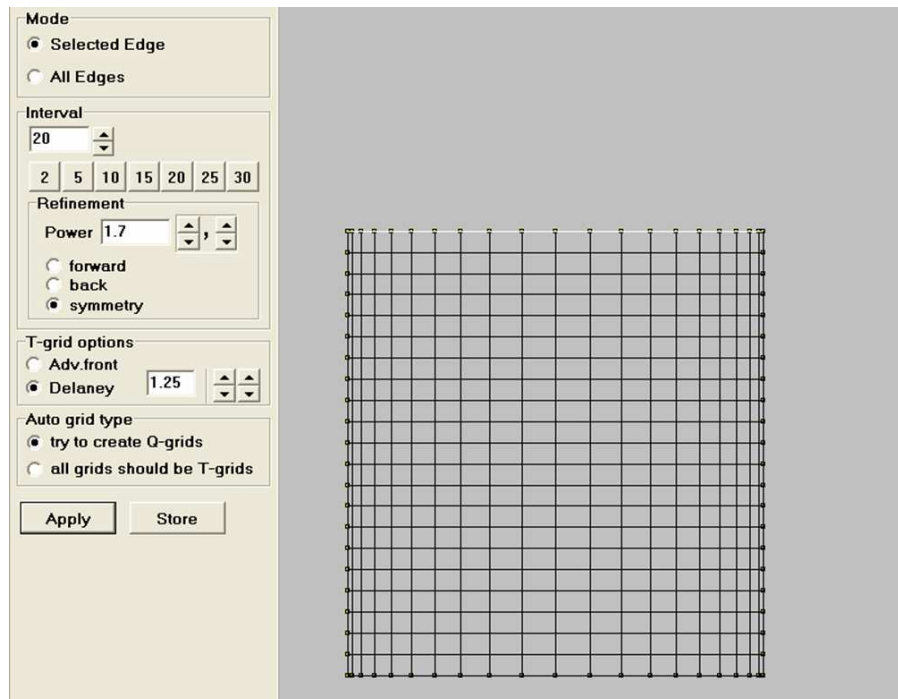

Fig. 36
- ✓ Section **Refinement** allows the user to specify a continuous increase of the internodal distance (i.e. distance between consecutive grid nodes) towards some of the edges of the selected boundary or to the center from both edges (see Fig. 36). It is only available in the *Selected Edge* mode. It contains the following elements:
- ✓ Text field **Power** specifying the exponent of the power function used to define the internodal distance variation.  $Power = 1$  corresponds to a uniform point distribution. The higher is power, the more considerable internodal distance increase is applied. Fig. 36 presents an example of grid refinement for a  $Power$  of 1.7.